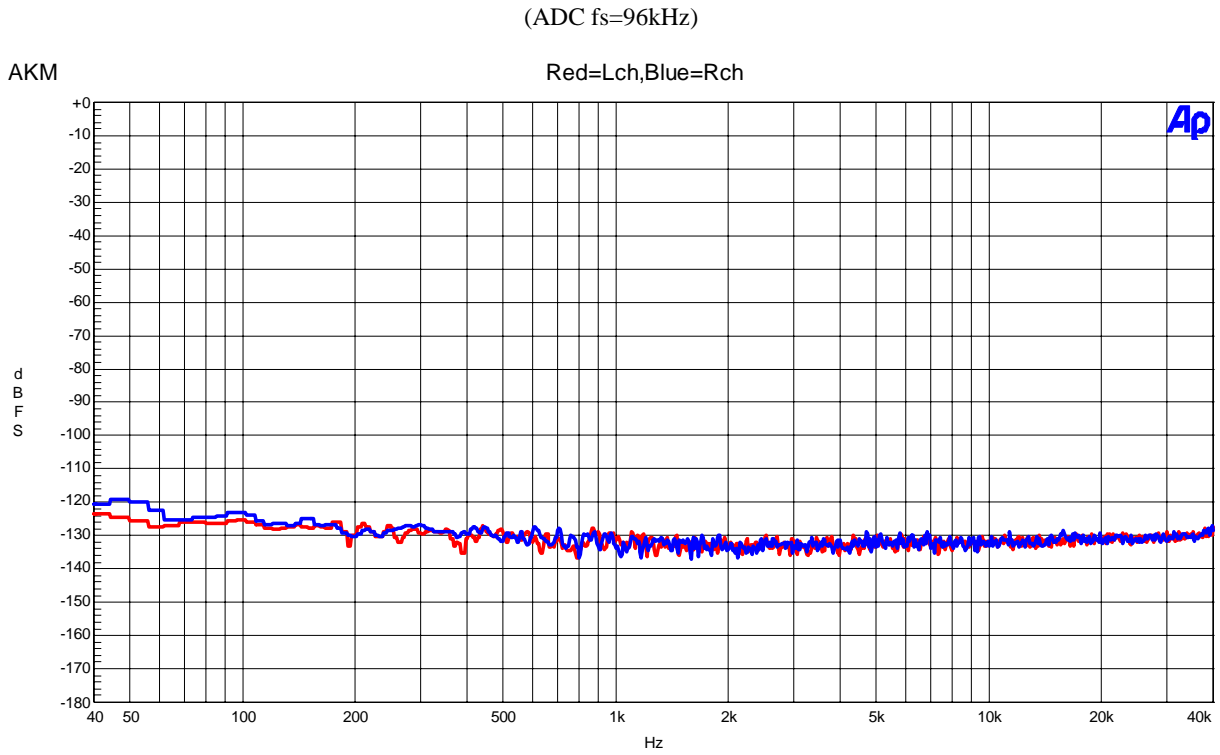

Figure 18. FFT(Noise floor)
- Figure 18. THD+N vs Input Level (Input Frequency =1kHz)